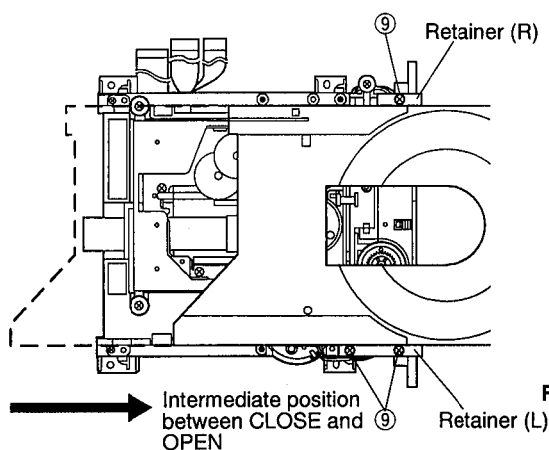
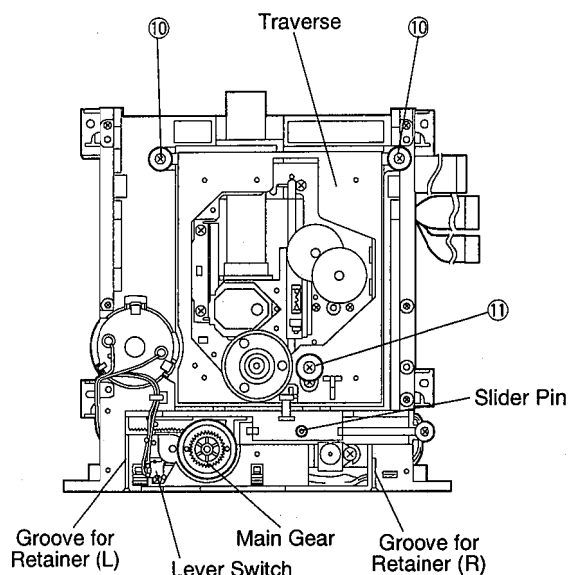

Fig. 6
Fig. 7
- Pull out the tray manually to the intermediate position between OPEN and CLOSE as shown in Fig. 6. This causes the lever switch to turn off.
- Remove 3 screws (9) and pull out the Retainers (L/R) to set the Tray free as shown in Fig. 6.
- Remove 2 screws (10) and then remove the Traverse as shown in Fig. 7.
- Remove 5 screws (11) and then remove the Drive Unit as shown in Fig. 5 and Fig. 7.
- Place the Tray at the intermediate position between OPEN and CLOSE as shown in Fig. 6. At this time, note the following points. (Fig. 7)
- Insert Retainers L/R along the groove in the mechanical chassis as far as they go and fix them with 3 screws (9) as shown in Fig. 6.